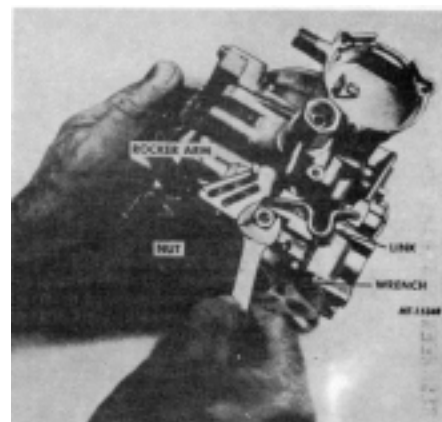

FIG.9. Remove or Install Accelerator Pump Rocker Arm.
**NOTE:** The position of the link in the rocker arm slots and the position of the throttle return spring or the positive throttle return spring on some model applications for proper reassembly (Figure 9).